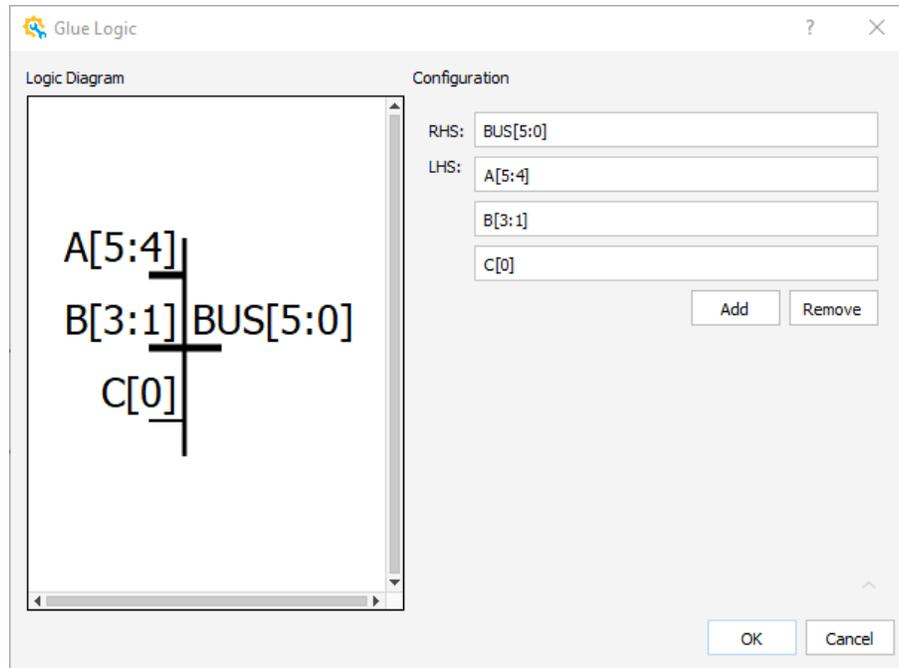

Figure 2.48. Glue Logic for Concat Module
1. From the IP Catalog, select the **concat** module. Double-click the concat module or drag and drop concat module to the Schematic view. A Glue Logic wizard (Figure 2.48) pops up.